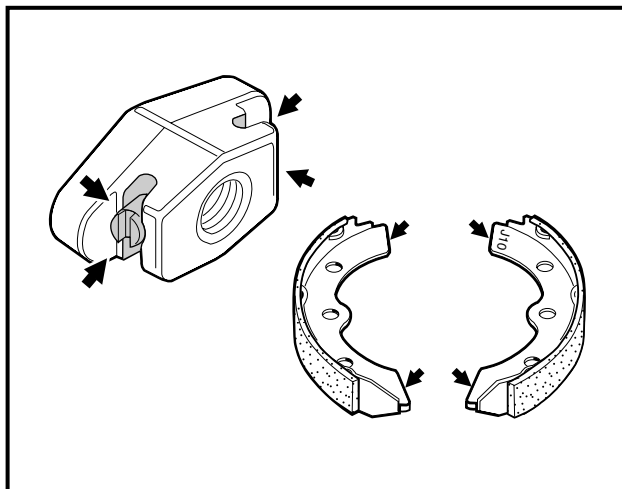

Figure 6-21 Lubricate Shoes
5. Use a small brush to carefully apply a light coat of white lithium NLGI #2 grease (Dow Corning BR2-Plus or equivalent) to each end of both brake shoes and into the slots in the brake shoe mounting block as shown (Figure 6-21, Page 6-11). See preceding WARNING.